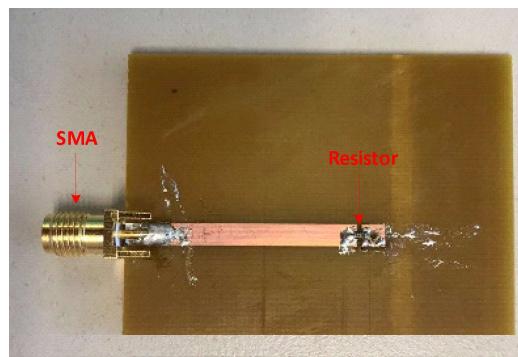
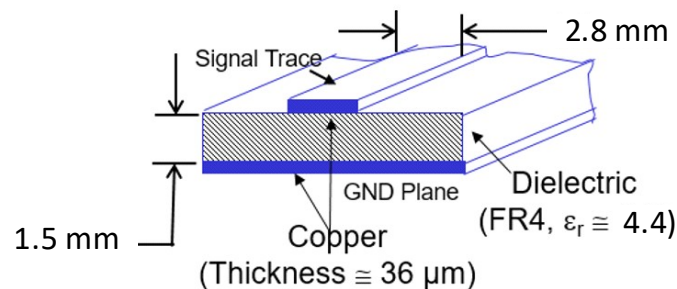

Fig.6 – 50ohm microstrip transmission line loaded by the resistor.
Fig.7 – 50ohm microstrip transmission line.
You shall receive a PCB sample as shown in Fig.6. The transmission line has a characteristic impedance of 50 ohm and is loaded by a resistor in the far end. A female SMA connector is soldered in the near end for the electromagnetic wave injection. Values of loaded resistors include 22 ohm, 150 ohm, 270 ohm. You shall get one from them. Parameters of the microstrip transmission line is shown in Fig.7. With the given parameters, one can calculate the effective dielectric constant and wavelength guided by the microstrip transmission line using formula (5) and (6). where $c \cong 2.998 \times 10^8$ m/s.